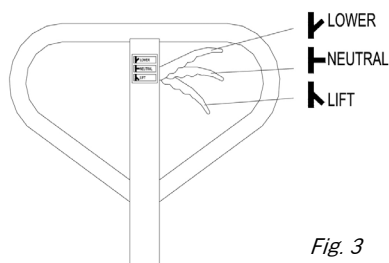

Fig. 3
On the handle tube (#1) of this pallet jack, you can find the control lever (#5), which can be regulated in three positions (Fig. 3).
1. Set the control lever (Fig. 3) to the lower position. If the fork frame does not lower, turn the nut (#13) clockwise until the fork frame lowers.